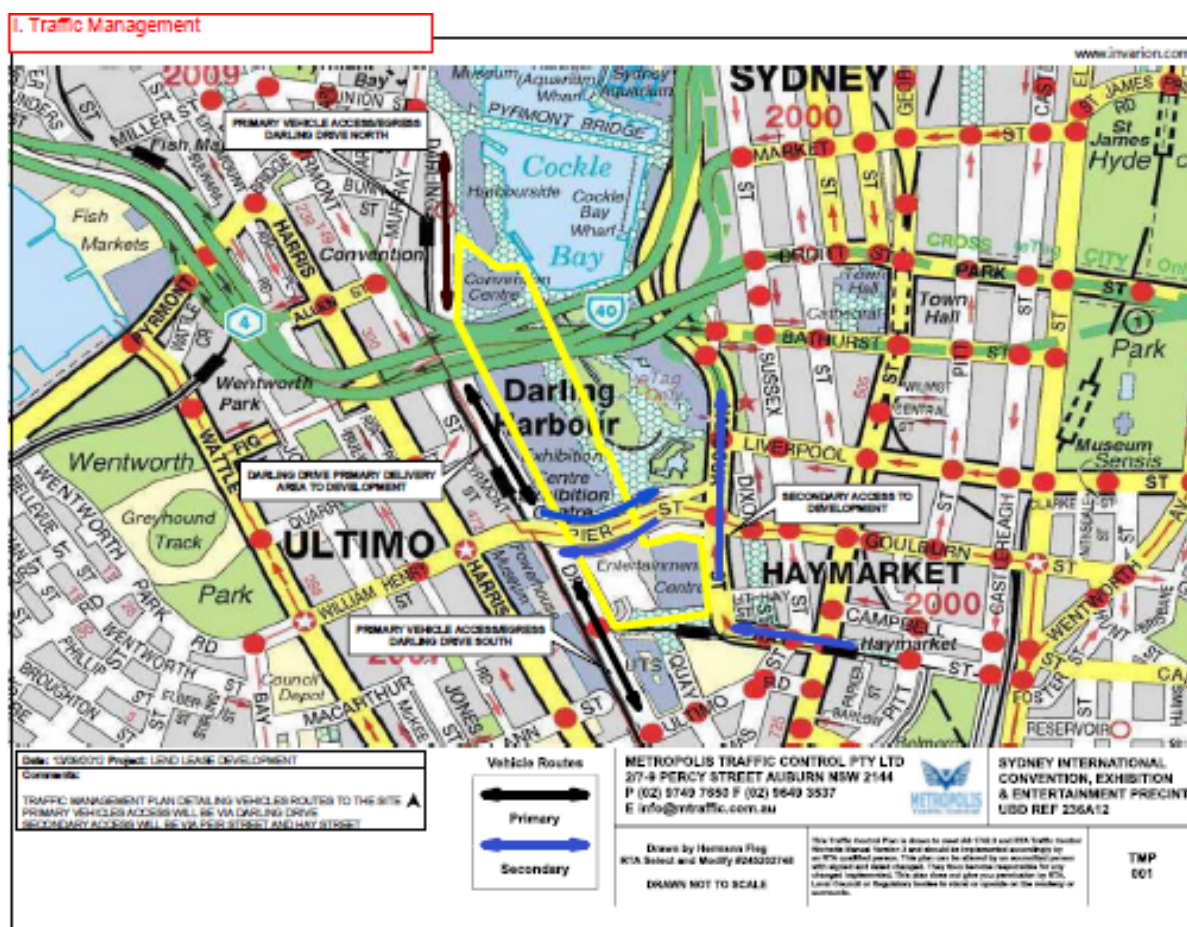

Figure 9 - Wider precinct Traffic Management Plan
- d) All vehicles will use the entry and exit gates to the western boundary of the site as detailed in Figure 9 below. These points shall be established initially and relocated during the works to ensure and maintain safe access and egress for vehicles and pedestrians.